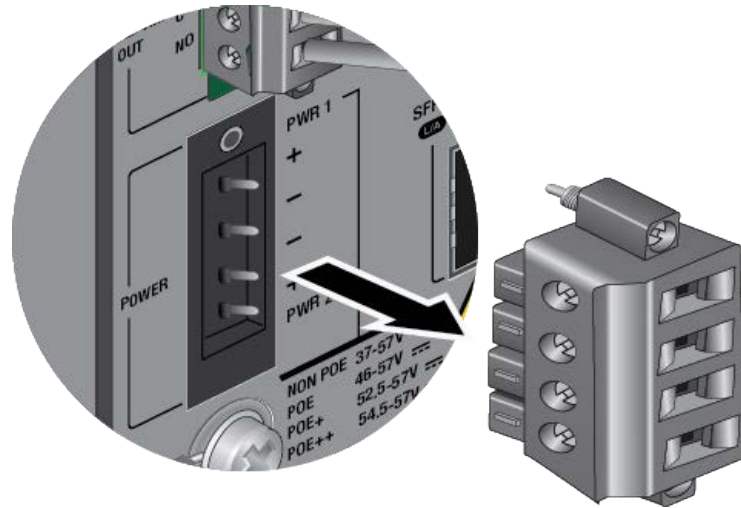

Figure 50. Removing the DC Input Plug
4. Remove the DC input plug from the front panel. Refer to Figure 50.